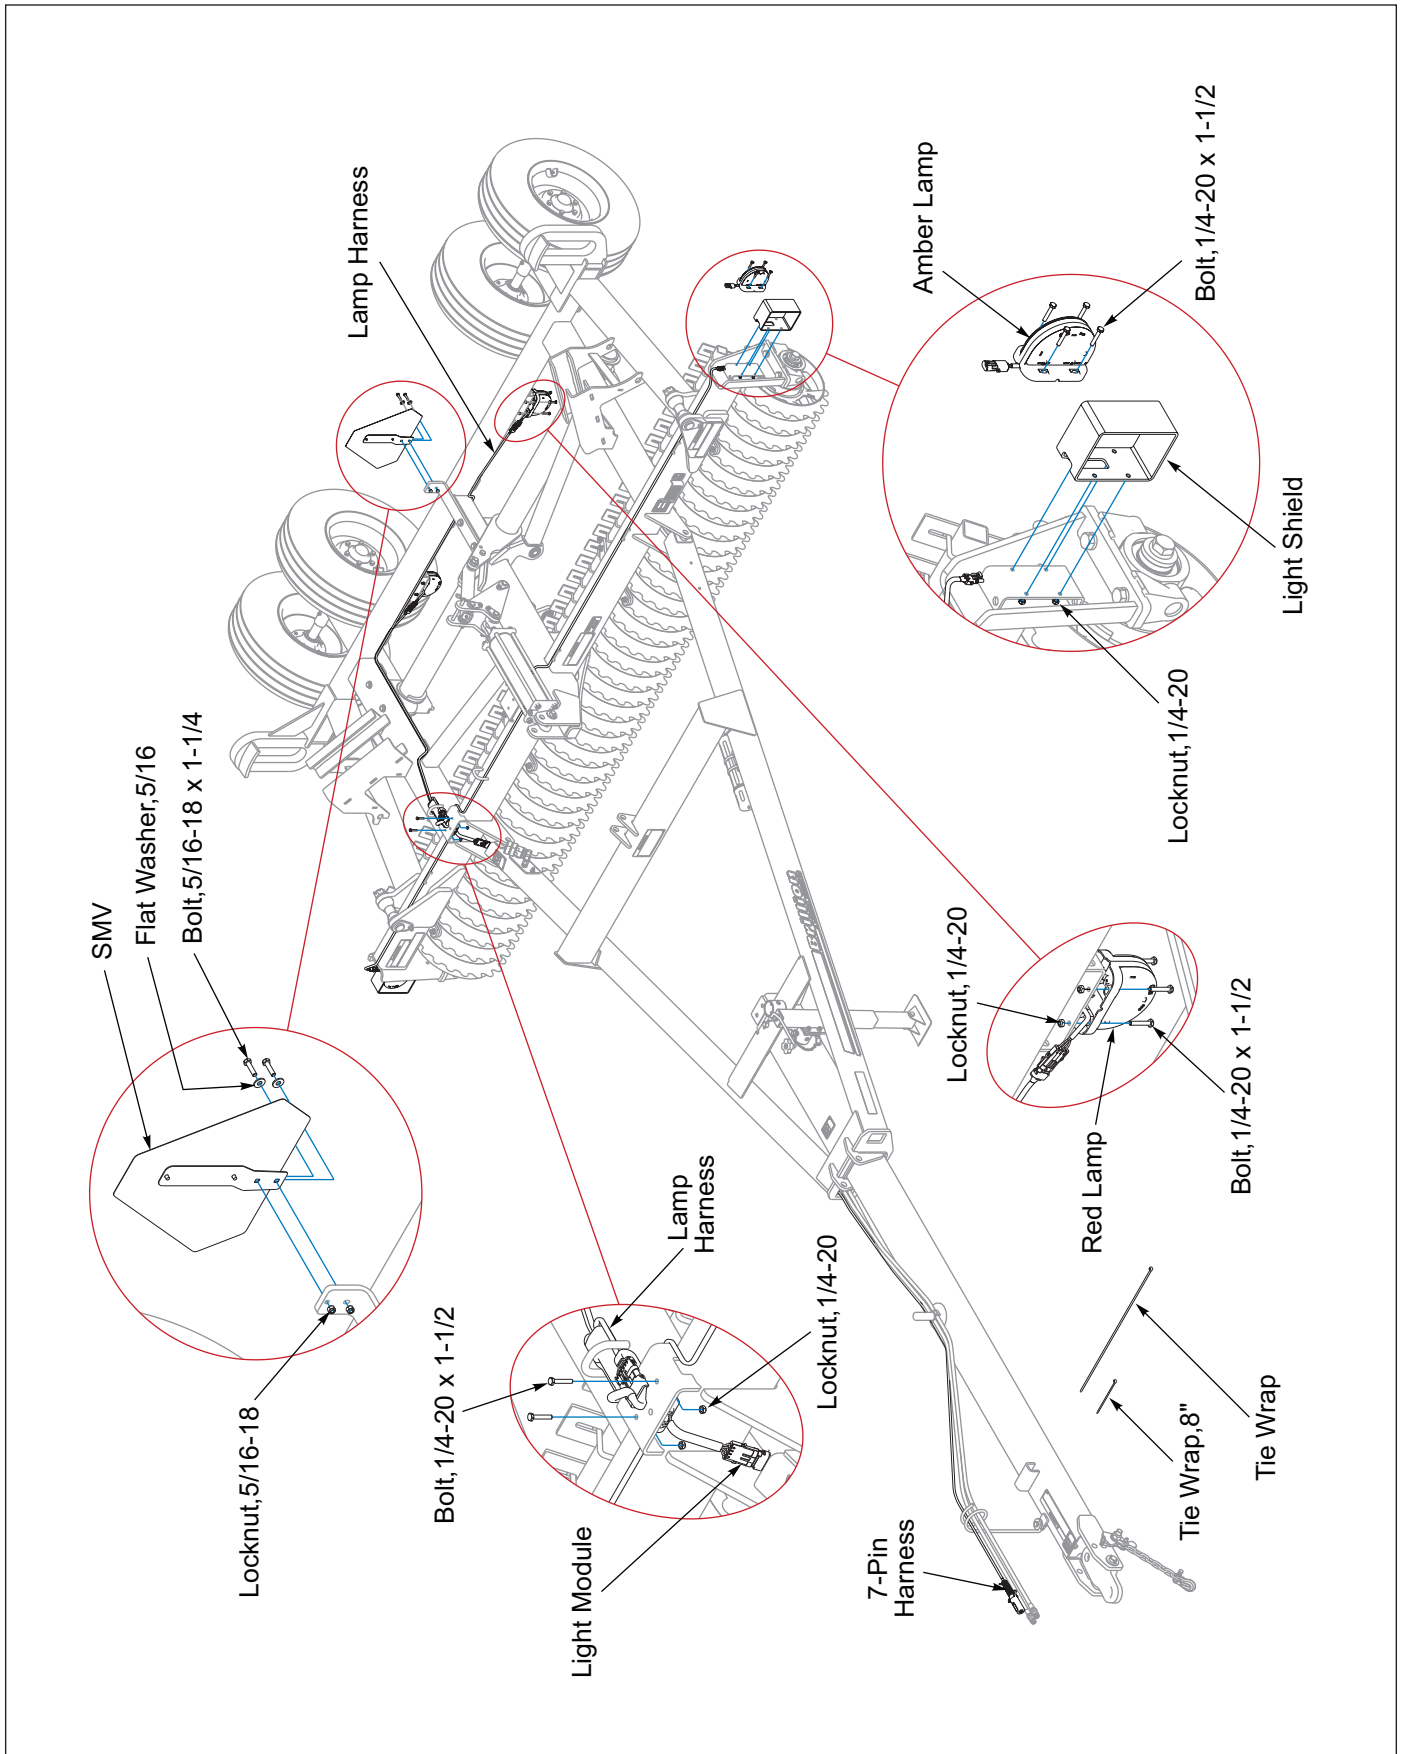

Figure 2-22: Electrical Layout
1. Attach Red Lamps to Frame Light Brackets located under the Rear Center Frame Tube, using 1/4-20 x 1-1/2 Bolts and Locknuts. Ensure the Red Lens is rear facing. **See Figure 2-22.**